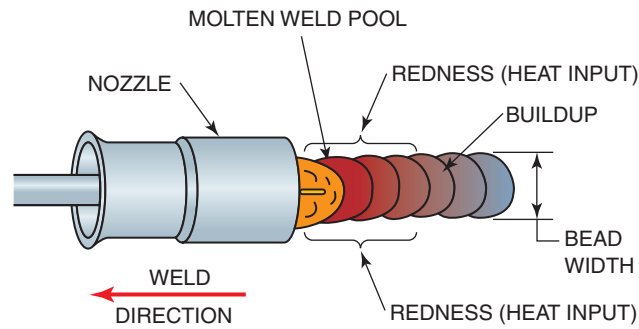

Figure 3.22 Welder's view with a backhand angle
- **Weld bead visibility**—It is easy to see the back of the molten weld pool as you are welding, which makes it easier to control the bead shape, Figure 3.22.